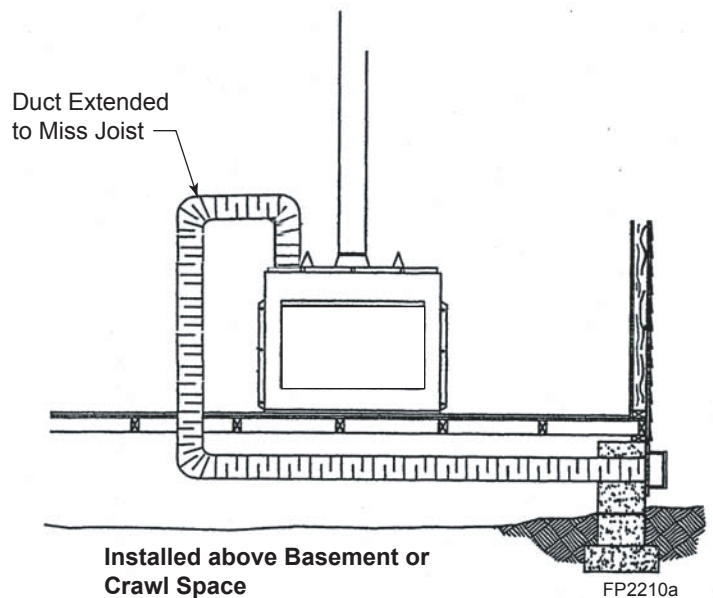

Figure 9
1. Avoid extremely long runs and numerous turns in duct leading from fireplace to combustion air assembly. These conditions increase the resistance to free flow of air through duct. *Figures 9 and 10*
4. Combustion air may be drawn from crawl space under house when adequate supply of air is provided by open ventilation. *Figure 9*